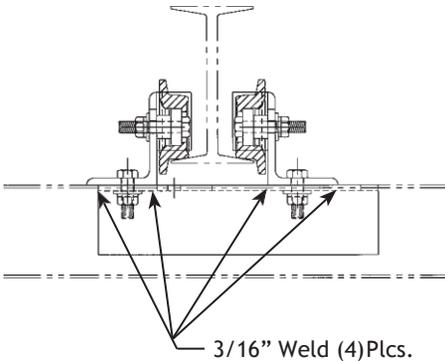

Figure 7 – Weld locations
6. Have a certified welder weld span-beam stops to I-beam and weld on each end of the end truck in four (4) places (See Figure 7).